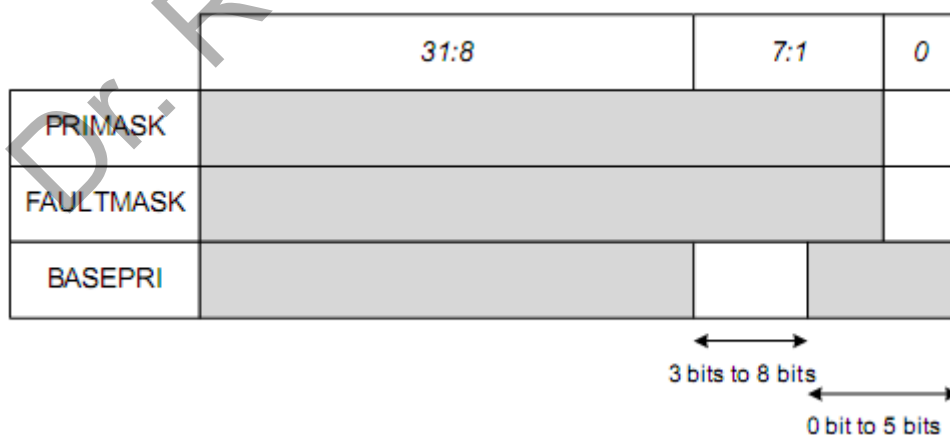

Figure 9: PRIMASK, FAULTMASK, and BASEPRI registers
- Figure 9 shows the programmer's model of these registers.